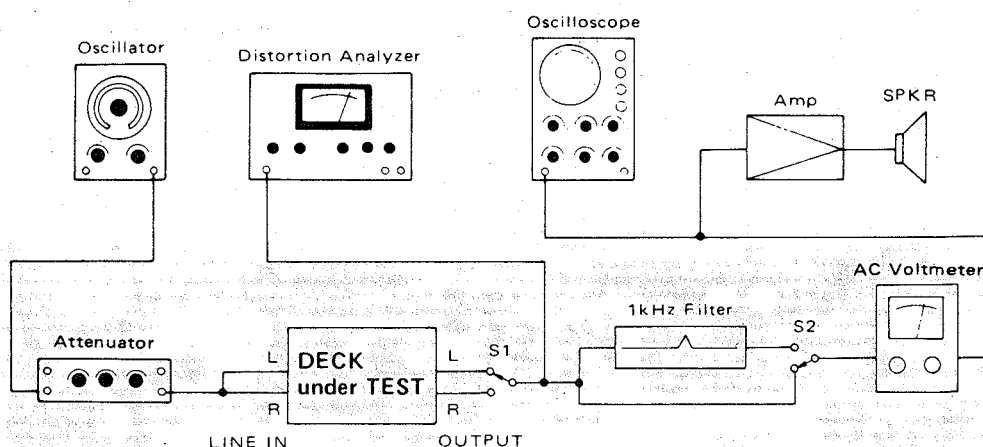

Fig. 5-1 Basic test setup
15. Erase efficiency 消去効果	Connection is same as in Fig. 5-1, but engage 1-kHz filter. Record a 1-kHz signal. Rewind tape to midpoint of recorded portion. Erase the recorded portion with no input signal. Find the difference between the 1-kHz portion and the "no-signal" portion. 接続Fig. 5-1.1kHz B.P.F.使用、1kHz信号を録音後中間まで巻戻し一部を消去、未消去部分と消去部分の1kHz出力レベル差を測定。
16. Channel separation チャンネル セパレーション	● Connection: Fig. 5-1, but do not connect LINE IN (R), and engage 1-kHz filter. ● Set the deck to record mode. Find the difference between the 1-kHz recorded portion (L-ch) and the "no signal" portion (R-ch). R-ch無接続、1kHz B.P.F.使用、1kHz録音部分(L-ch)と無信号録音(R-ch)の1kHz再生出力レベルの差を測定。
17. Adjacent track crosstalk トラック間クロストーク	● Connection: Fig. 5-1, but do not connect LINE IN (L) and OUTPUT (L). ● Record a 125-Hz signal on R-ch and note output level. Invert tape and play R-ch track. Check leakage level against the output reference of previously recorded portion. L-ch 無接続: R-chに125Hzを録音し、その再生出力を基準レベルとする。次にテープを反転し、再生したときのR-ch出力レベルとの差を測定。
18. REC MUTE function REC MUTE効果	Connection: Fig. 5-1, but engage 1-kHz filter. Record a 1-kHz signal. Push REC MUTE button for several seconds. (At this time, make sure LED lights). Rewind and play the tape. Find the difference between the 1-kHz portion and the "no-signal" portion. 1kHz B.P.F.使用、1kHz信号を録音し、途中REC MUTE鈕を押し無信号部を作る。そのテープを再生し、録音部と無信号部の出力レベル差を測定。